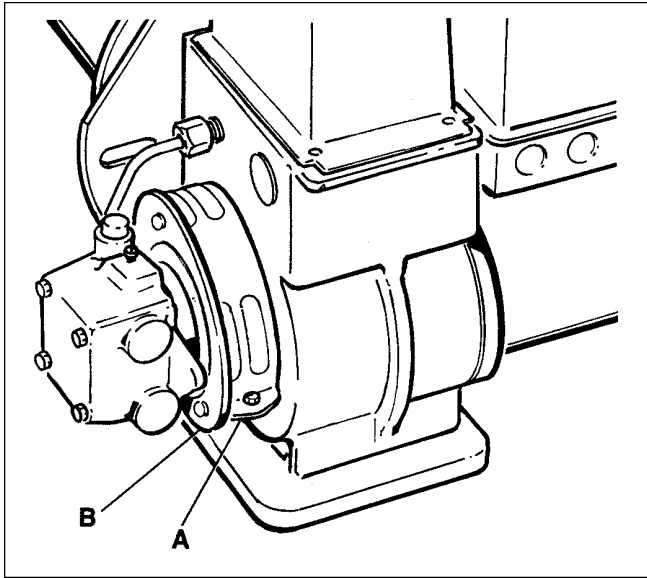

Figure 18. Initial Air Adjustment.
Check the initial air adjustment (see Fig. 18). Normally, the bulk air band (A) and the end air shutter (B) should be partially open. It is factory set for both indoor and outdoor installations, but check it again after completing the installation by measuring the CO₂. It should be 12% CO₂ with zero smoke. Set a barometric draft control to give .02" to .03" W.C. draft below the draft control when the heater is installed indoors.